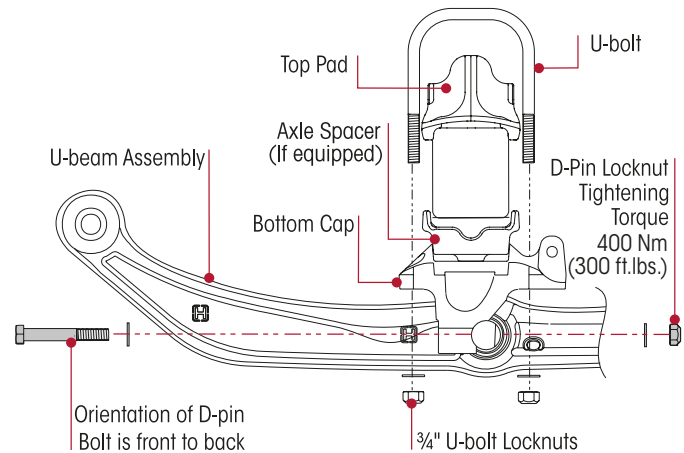

Figure 111: Tighten D-Pin Fasteners (if loosened)
6. Tighten the D-Pin fasteners to 400 Nm torque if loosened or removed during disassembly. Refer Figure 111.